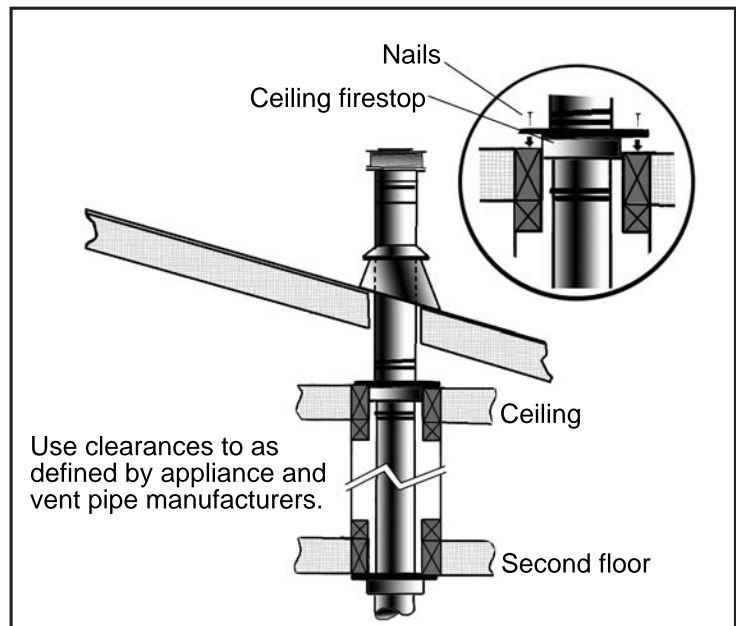

Figure 32: Multi-Story Vent Pipe Installation.
- (a) If an offset is necessary in the attic to avoid obstructions, it is important to support the vent pipe every 3 feet (91 cm), to avoid excessive stress on the elbows, and possible separation. Wall straps are available for this purpose (see Figure 32).